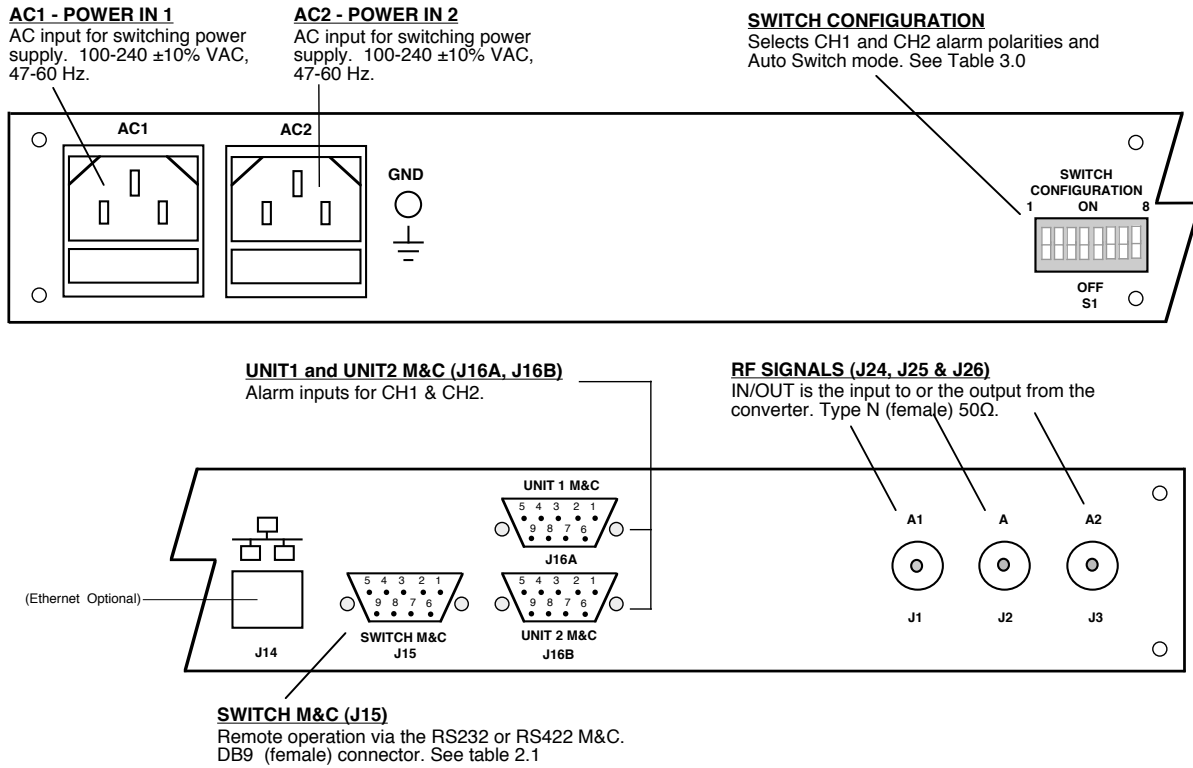

FIGURE 2.2 1582-1650 IF-L/RF Switch Rear Panel Inputs/Outputs
Figure 2.2 shows the input and output connectors on the rear panel.
4. Connect to signals on the MONITORS AND CONTROLS connectors, J16A & J16B, as desired (see Figure 2.2, Table 2.1).